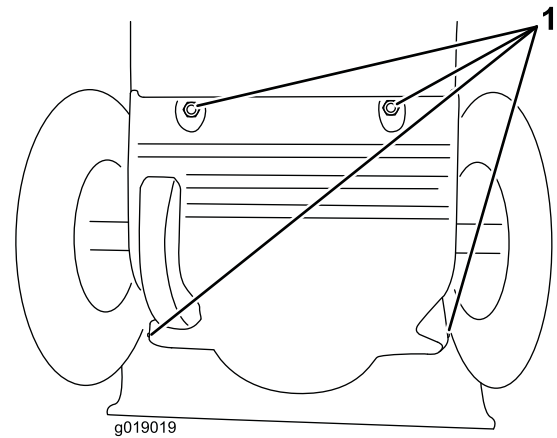

Figure 34
- Remove the back cover (Figure 34).